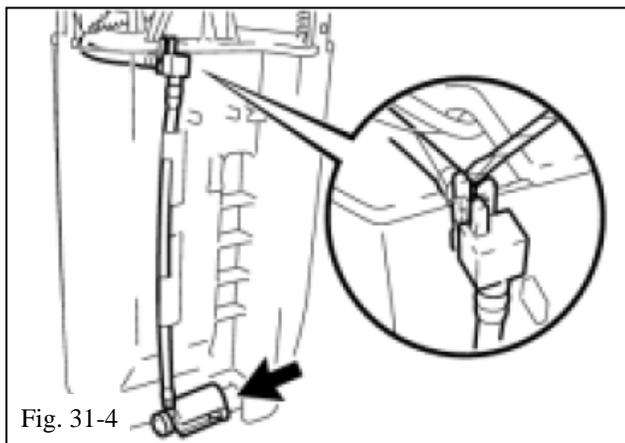

Fig. 31-4
- (d) Use a small screwdriver to detach the claw on the end of the tube from the claw hole. Disconnect the tube from the 2 clamps (Fig. 31-4).